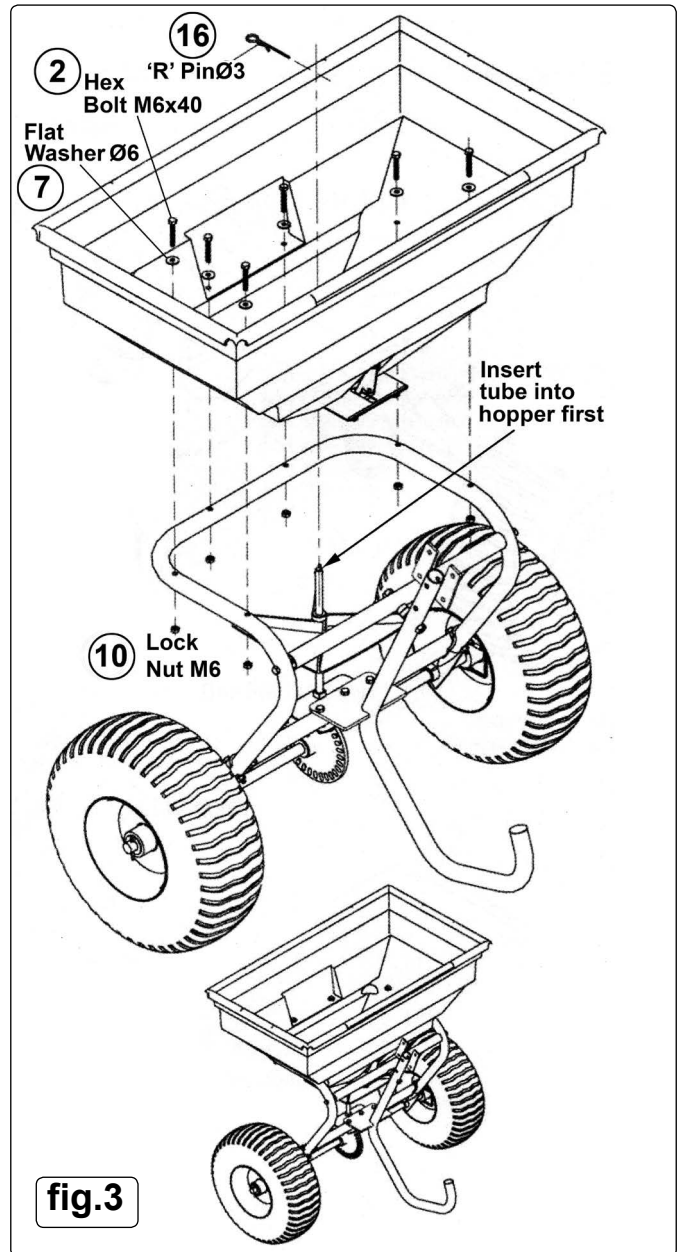

fig.3
**4.3 INSTALLING THE HOPPER. (refer to fig.3)**